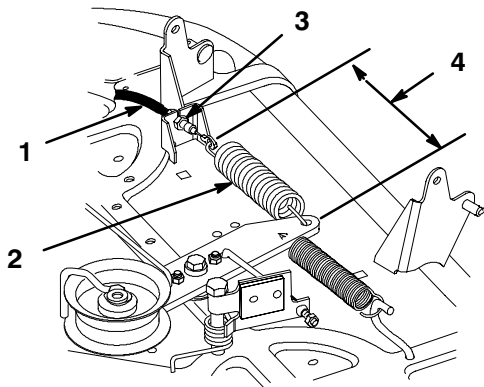

Figure 48
12. Engage the PTO lever on the dash. Measure the distance between the hook ends of the idler spring (Fig. 48). Adjust the jam nuts until a 6 in. (150 mm) dimension is obtained (Fig. 48).